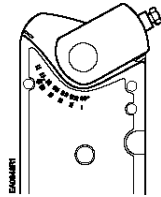

Figure 10.
- a. Insert the shaft adapter to the right as close as possible to the raised stop. See Figure 10.